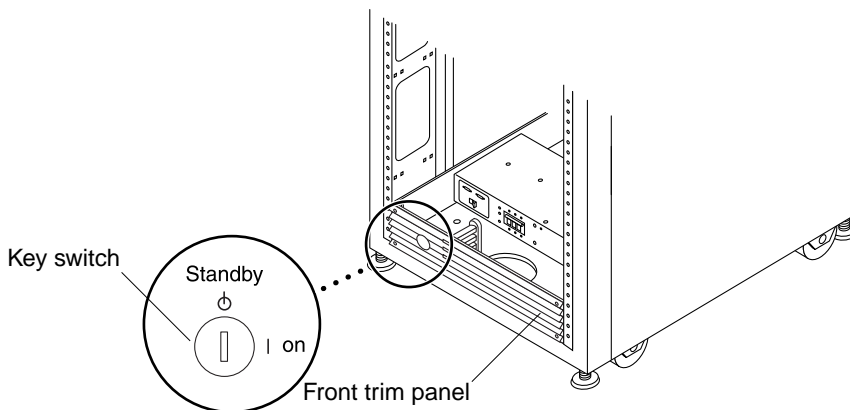

FIGURE 2-1 Location of Key Switch on Bottom Front Panel
1. Verify that the key switch located at the bottom front of the expansion cabinet is in the Standby position (FIGURE 2-1).